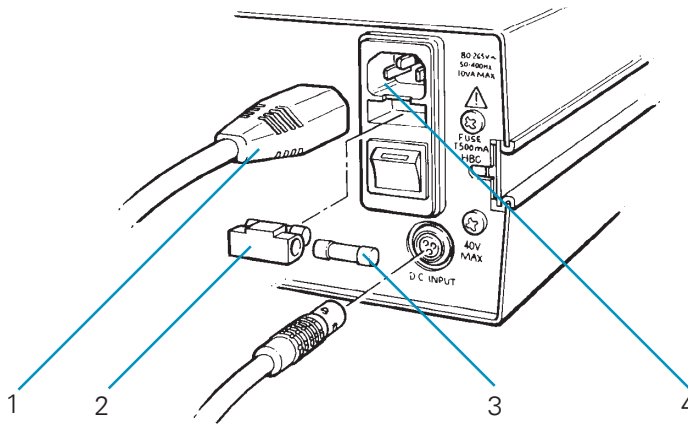

Figure 3.5 - A.C. Power Supply Socket
The a.c. power supply inlet assembly is located on the rear panel as shown on Fig. 3.5. A fuse and Power On/Off switch are also contained within the assembly, details of the fuse fitting being shown in Fig. 3.5.
- Insert the moulded IEC connector (1) into the power supply socket (4) and connect to a suitable a.c. power source.
- If the instrument display does not light up, isolate the external power supply and remove the IEC connector (1) from the power socket (4).
- Remove the fuse holder (2) as shown in Fig 3.5. and insert a new fuse.
The d.c. input connector is located on the rear panel in the position shown on Fig. 3.5. To connect the input, proceed as follows.